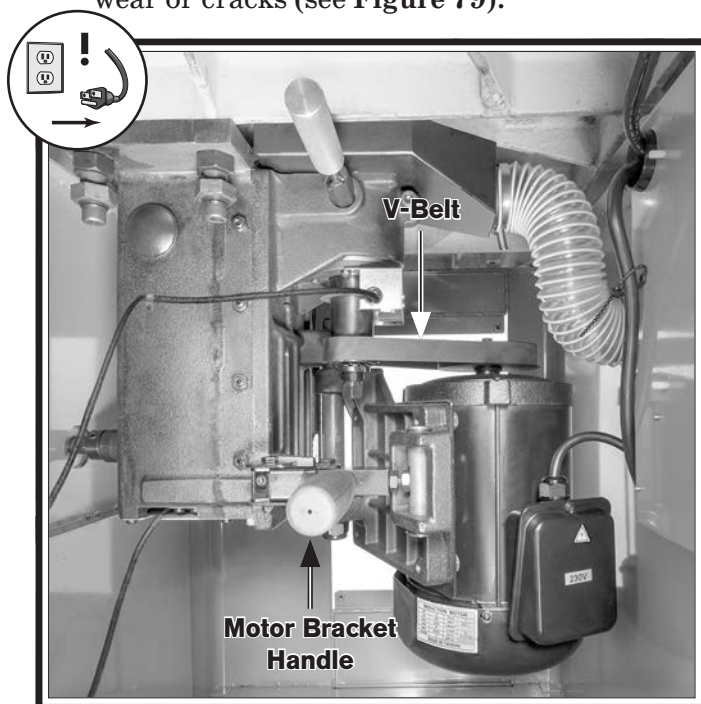

Figure 79. Location of V-belt and motor bracket handle.
2. Open cabinet door and examine V-belt for wear or cracks (see Figure 79).
3. Release V-belt tension by pulling motor bracket handle (see Figure 79).